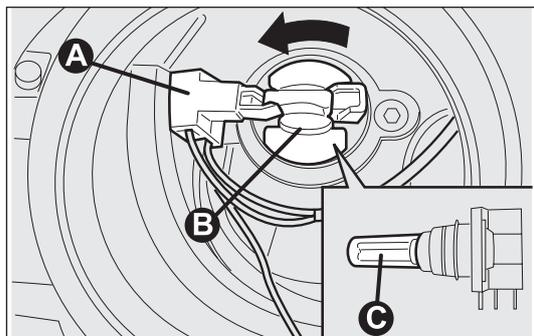

fig. 183
- disconnect the electrical connector A-fig. 183;
- rotate the bulb holder B-fig. 183 counter-clockwise and take out the unit;